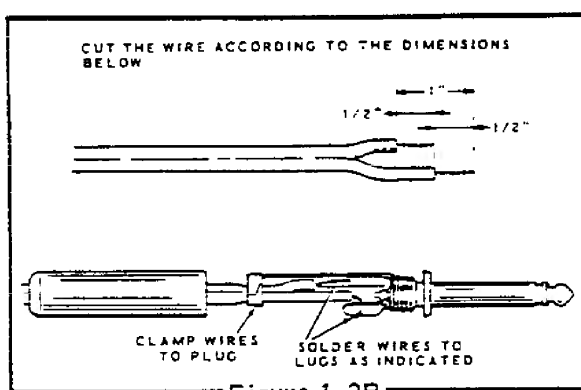

Figure 1-2B
- () Cut a wire to the length required for your installation. Refer to Figure 1-2B and prepare the wire and phone plug assembly for connecting your key to the Transceiver KEY jack. Connect the other end of the wire to the terminals of your key.